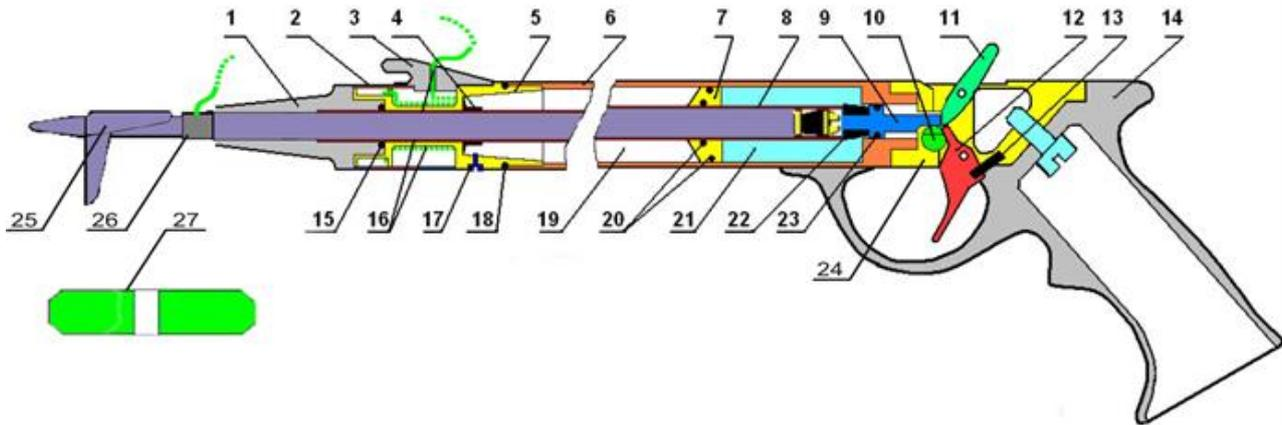

Figure 2.
In the handle placed: trigger 12, line releaser 11, trigger valve 9 and safety/ shot power controller 10. When the release mechanism is cocked (see Fig. 2), the trigger valve locks the barrel 8 and prevents water from the cavity 21 to pass into the barrel. After pressing the trigger, trigger valve under the pressure of water in the cavity 21 moves back, and the water enters the barrel, vigorously pushing the harpoon out of it. At the same time, the line 16 reeled between the line releaser 11 and the bead 3 is automatically released.
- screw the short receiver into the vacant socket. **Make sure** that the o-ring 15 (Fig.2) at the place.